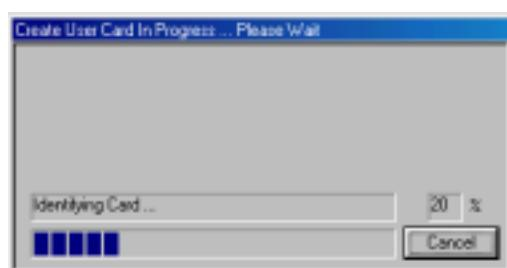

Figure 6.9 Card Creation Progress Window
8. A window showing the card creation progress will appear. When it has closed, the card has been created (Figure 6.9).
9. A window showing the card creation progress will appear. When it has closed, the card has been created (Figure 6.9).